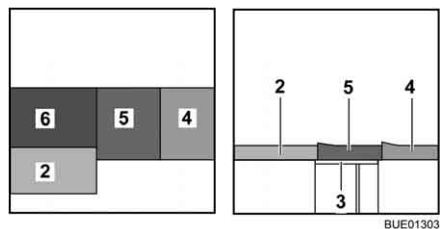

Fig. 126 After conversion
- Place the seat cushion (Fig. 126,5) in the centre.
- Place the back cushion (Fig. 126,4) between the seat cushion and the wall.